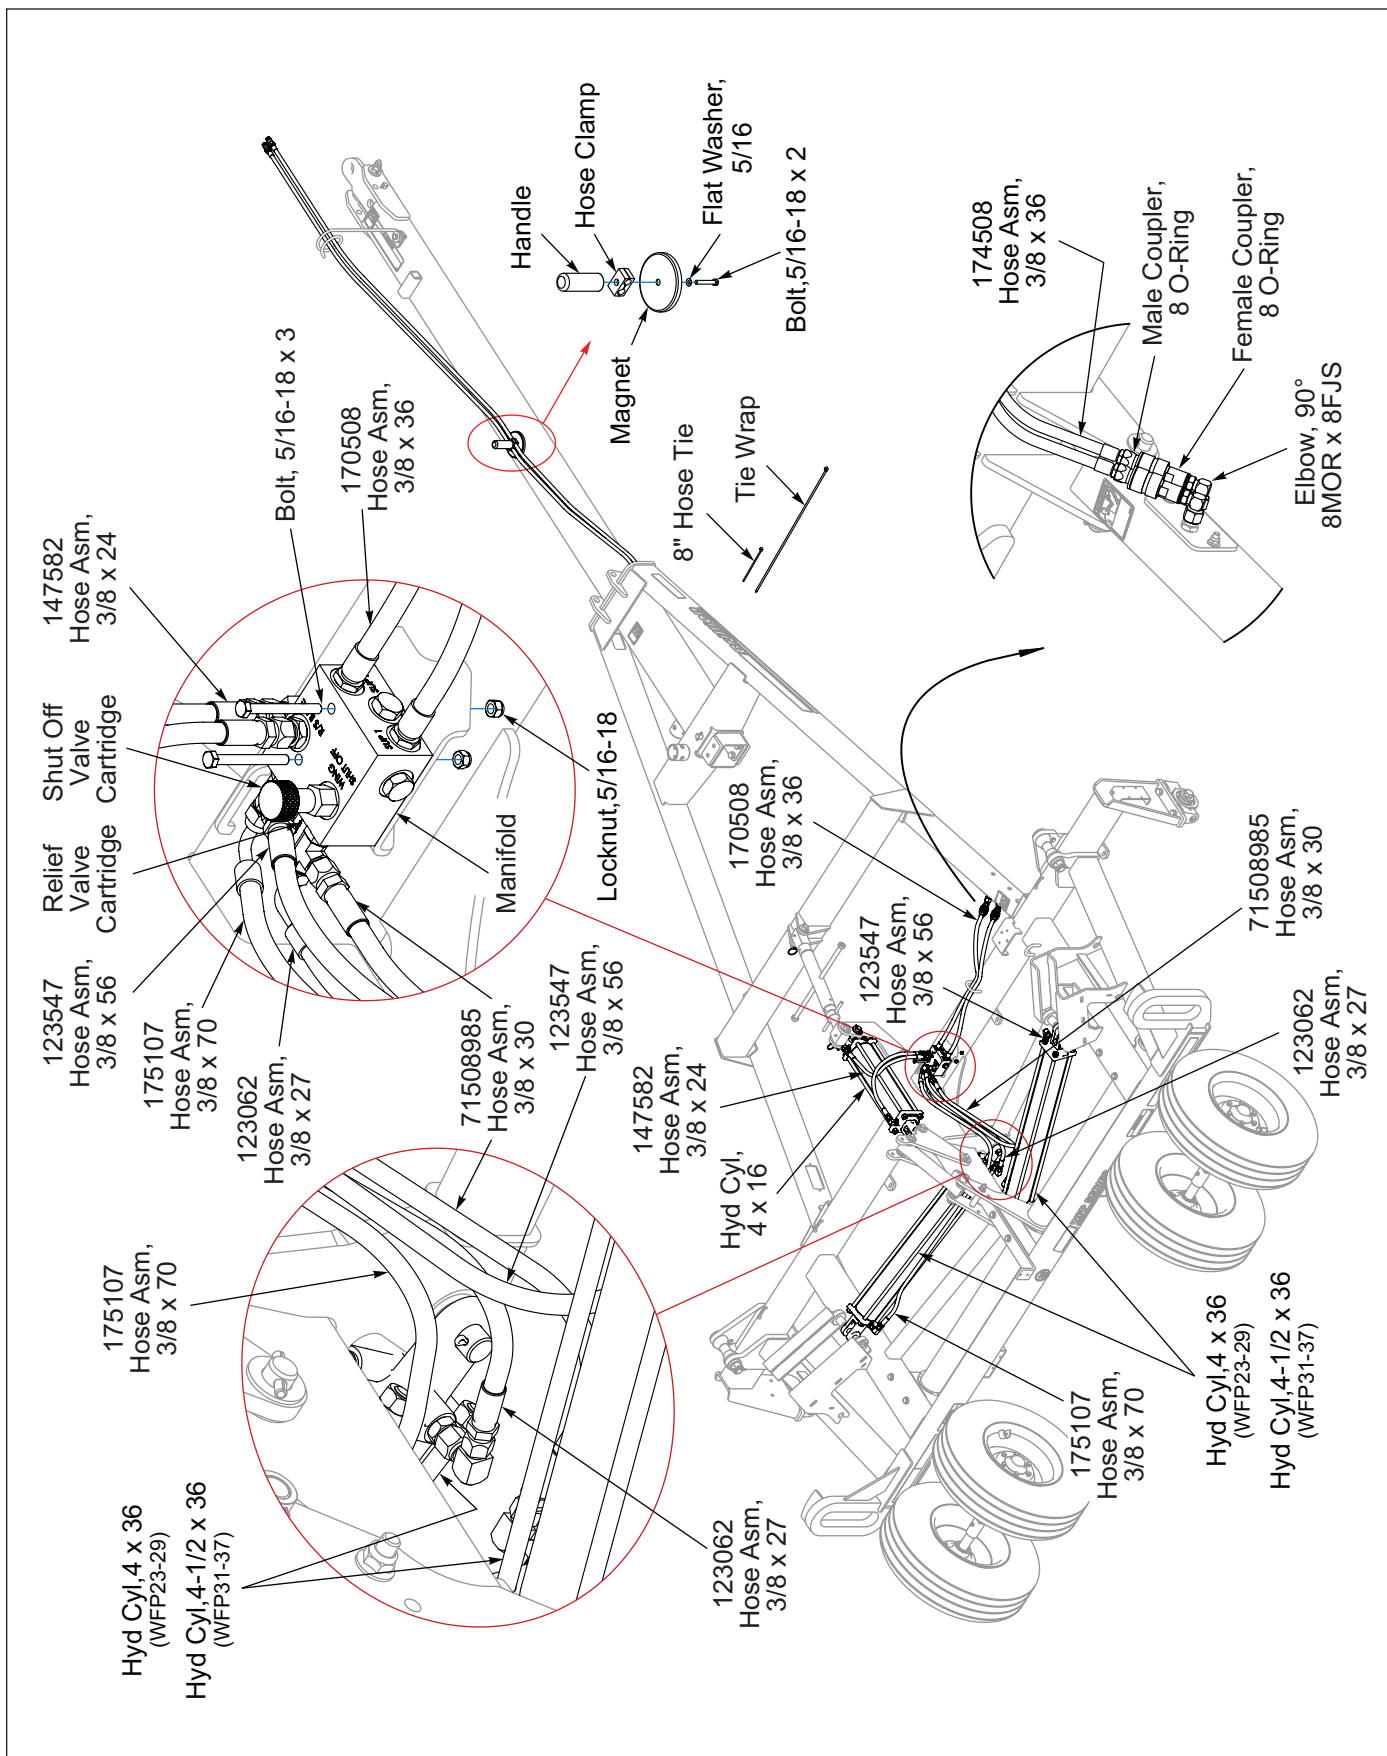

Figure 2-14: Hydraulic Layout
3. Attach Manifold to the Frame Bracket with 5/16-18 x 3 Bolts and Locknuts. **See Figure 2-14.**